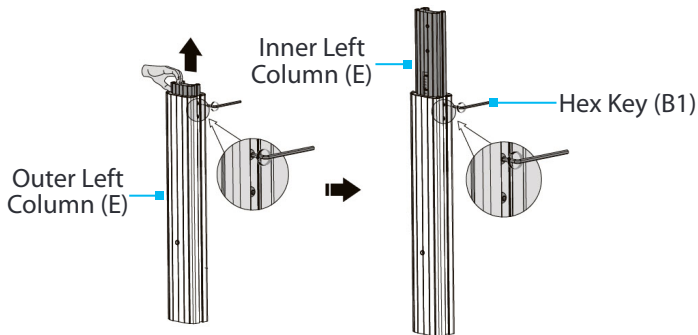

Figure 2
2. Hold the inner and outer **Left Column (E)** in one hand and loosen the two **Hex Screws** on the side of the **Left Column (E)**, using the **Hex Key (B1)**. (Figure 2)
*Do not release the grip on the inner and outer portions of the **Left Column (E)** while the **Hex Screws** are loose.*
3. Extend the **Left Column (E)** to the desired mounting height. Use the built-in **Height Indicator**, located on the inner portion of the **Left Column (E)**.
5. Repeat steps 2-4 for the **Right Column (F)**. Ensure both **Columns (E&F)** are the same height by referencing the **Height Indicators** on the inner portion of each **Column**.